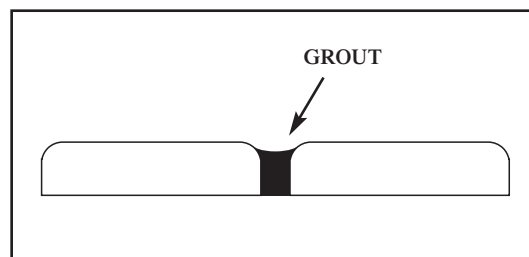

Fig. 12 - The finished grout line width is wider than the space between the tiles.
- The desired grout line width should be determined prior to starting the flooring installation. It is important to understand that the finished grout line will be 1/16" to 3/32" wider than the space between the tiles, since the grout will extend onto part of the radius along the top edge of the tile (Fig. 12).